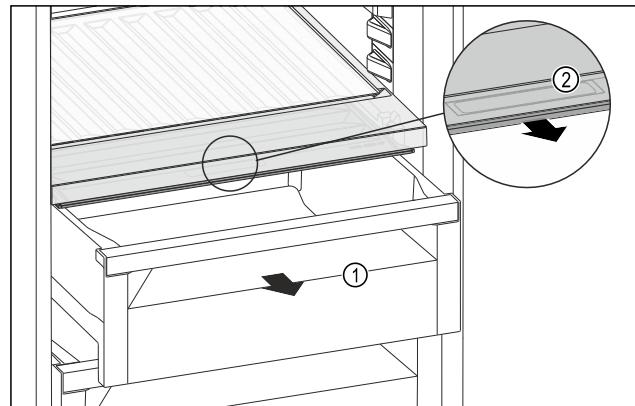

Fig. 127
- ▶ Pull out the drawer Fig. 127 (1).
- ▶ Grasp the recessed grip Fig. 127 (2) on the compartment lid and pull the compartment lid forwards at the same time.